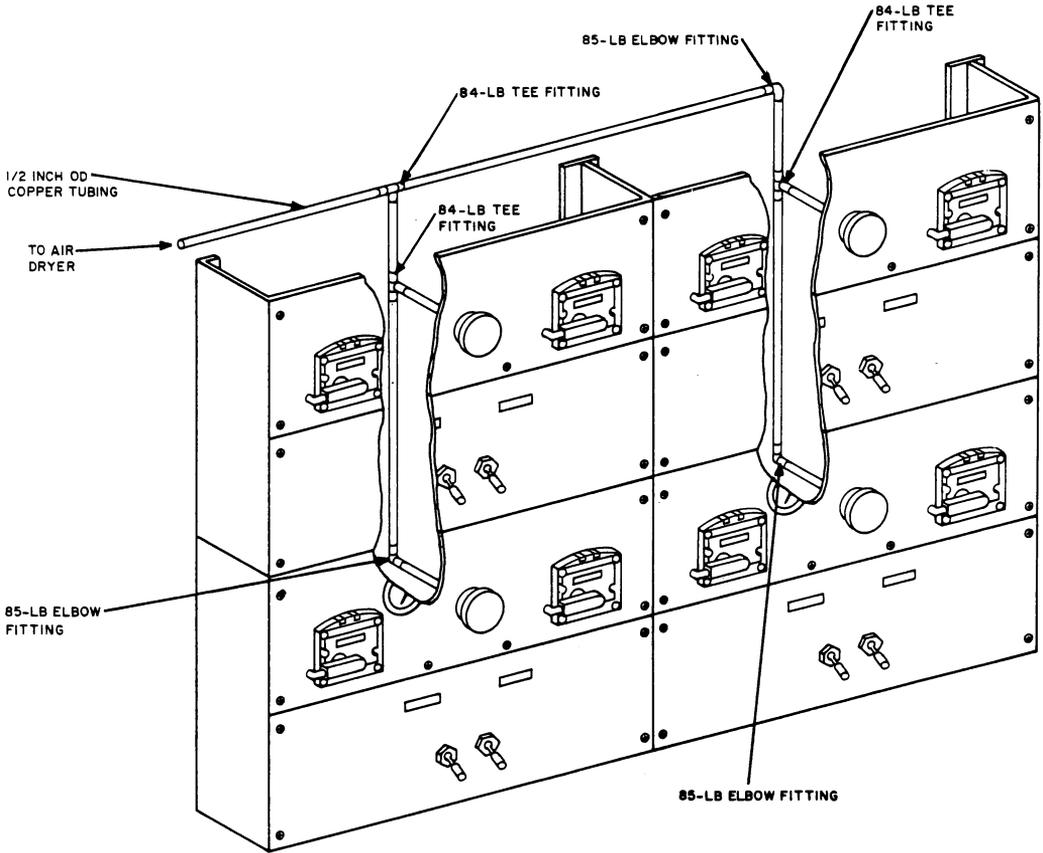

Fig. 6—Piping Arrangement for Horizontally Banked Meter-Panels
5.05 When the meter-panels are banked *horizontally as well as stacked vertically*, the vertical interconnections are made as described in 5.04. The horizontal interconnections are made as shown in Fig. 6.